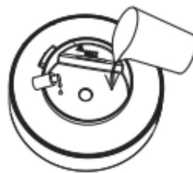

Fig. 2-2
2. Pour about 120 mL of water to the tank not exceeding the maximum water level scale marked as «MAX» and add 2-3 drops of aromatic oil (Fig. 2-2).